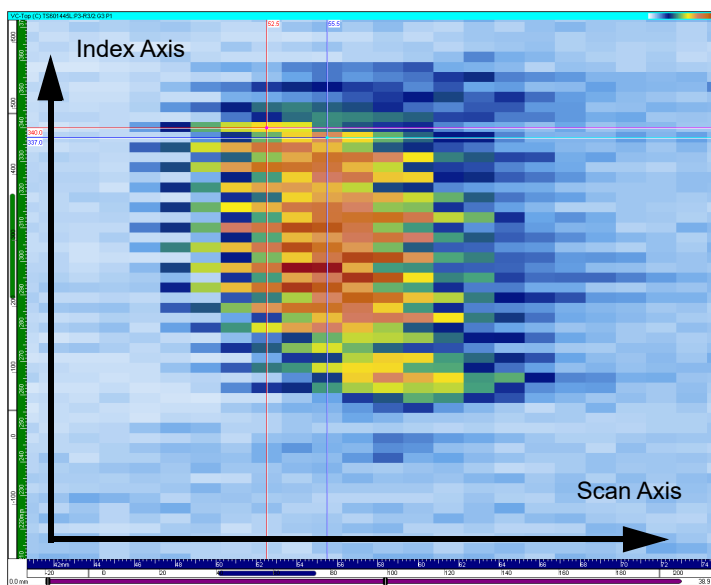

Figure 7-82 Position of the cursors
2. Display a C-scan, a Top (C), or a Volume Corrected Top (C) view.
3. Position the reference and measurement cursors on the mechanical grid to perform the wanted correction for the scan and index axis (see the example in Figure 7-82 on page 425).